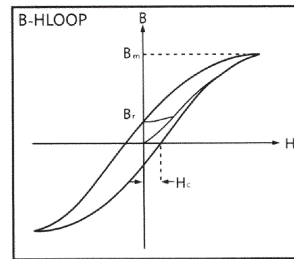

图 1
If an alternating magnetic field is applied to a soft magnetic material, the magnetic induction (B) changes with the magnetic field (H) as shown in Fig.1. The hysteresis loop, describing the relation between H and B, is called the magnetization curve.